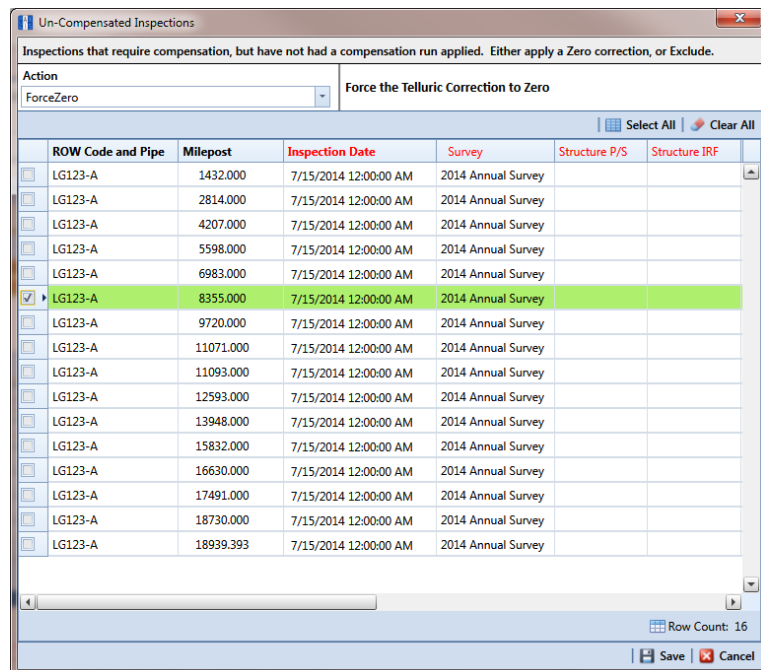

Figure 14-26. Un-Compensated Inspections
- 4 Click **Un-Compensated Inspections** to open the *Un-Compensated Inspections* window. Then click the down arrow in the **Action** field and select **ForceZero** or **Exclude** (Figure 14-26).